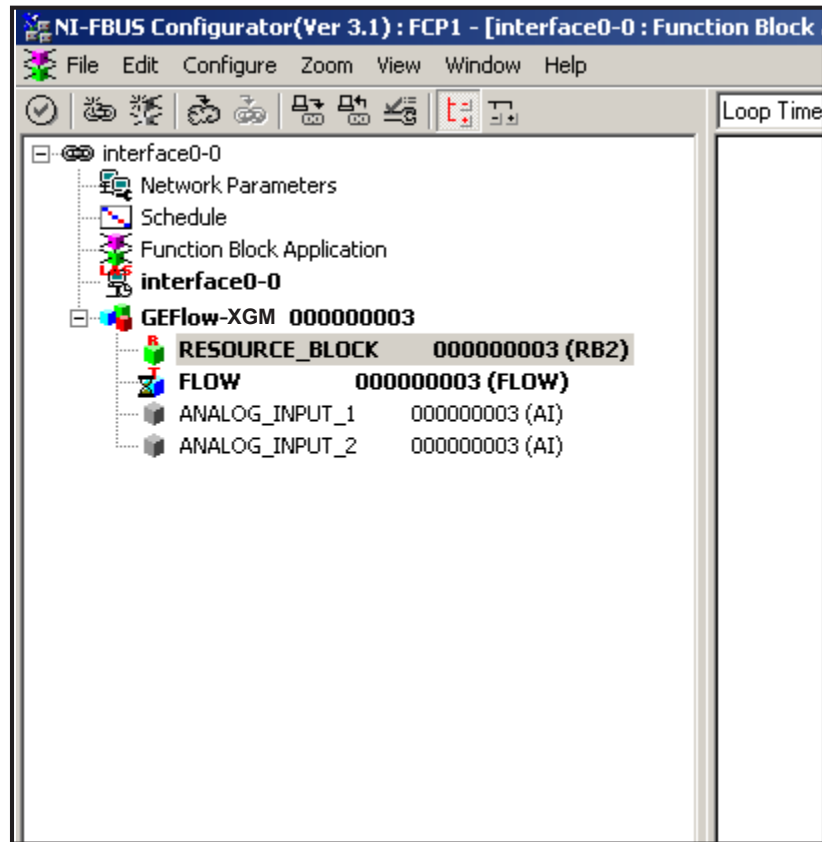

Figure 56: Configuration Utility Setup Example
Figure 56 shows the Configuration Utility with a flowmeter on the network (GE Flow-XGF).
- 1. Double click on the AI block for which you wish to set the units (ANALOG\_INPUT\_1 or ANALOG\_INPUT\_2 in the tree under GEFlow-XGF; see Figure 56 on page 134).
1. Double click on the FLOW transducer block (in the tree under GEFLOW-XGF; see Figure 56 on page 134).